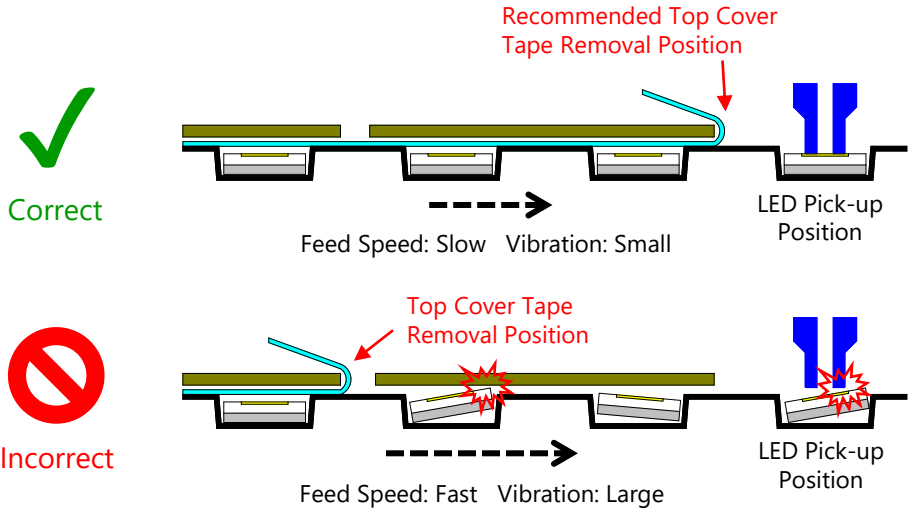

Figure 4. Recommended/Not Recommended Top Cover Tape Removal Positions
3. It is recommended to remove the top cover tape at the recommended position shown in Figure 4 (i.e. immediately before LED pick-up).